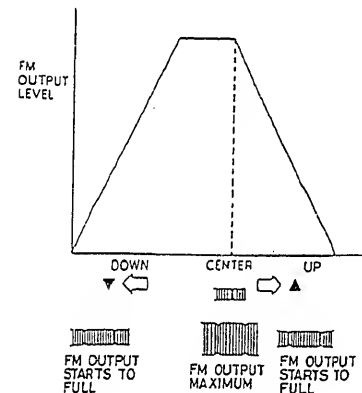

Fig. 3-12
8. Press the two (2) TRACKING control buttons (up and down) simultaneously.
10. Adjust the X-value adjustment nut so the signal at TP203 (FM envelope) is maximum. Press the two (2) TRACKING control buttons (up and down) and check that the FM envelope becomes as shown in Fig. 3-12.